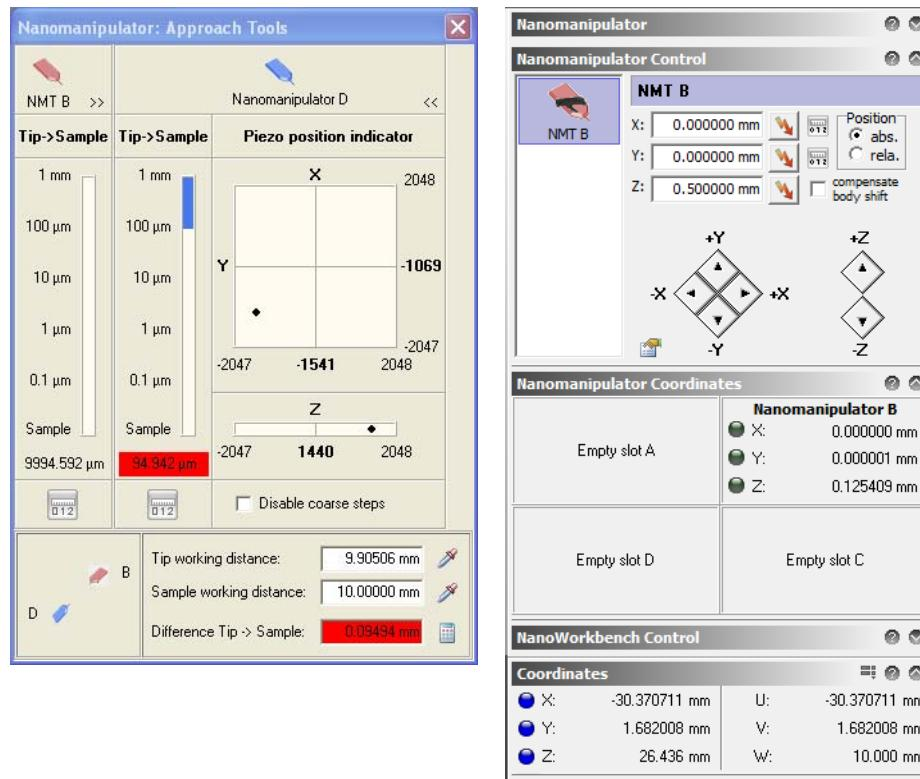
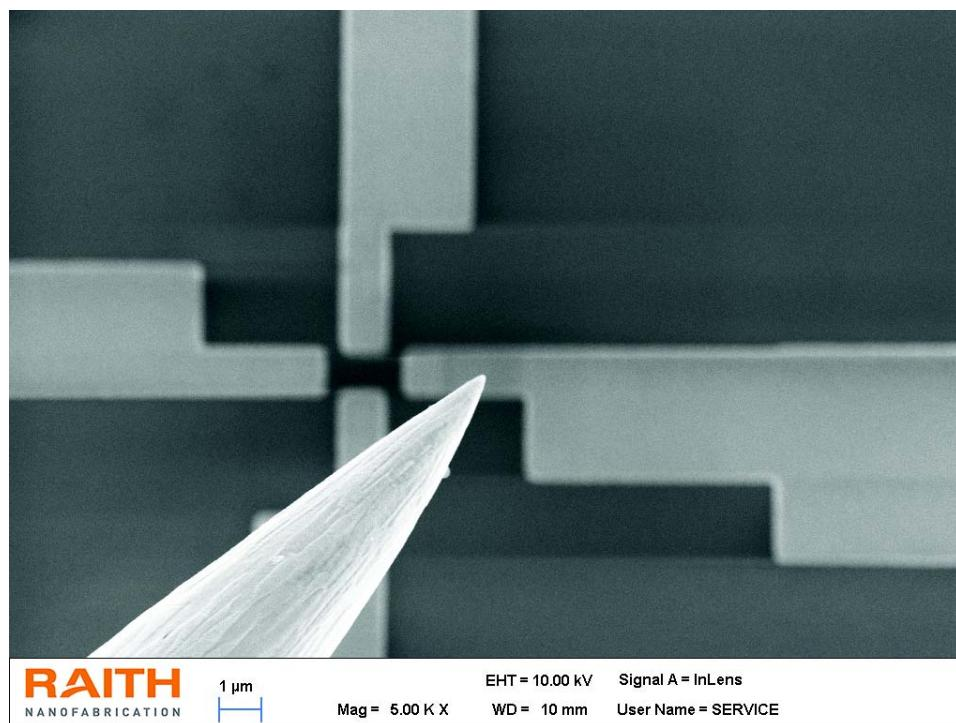

Figure 22-5: Approach process STEP 2a: Software values of the 1st approach. WD to sample: 10 mm. Real distance tip-sample: 125.500 µm. X, Y values: 0
Figure 22-7: Approach process STEP 2c: Image of 1st approach. Focus on tip, WD at 9.90506 mm (Magn. 5 000x). Real distance sample - tip = 125.500 μm
The nanomanipulator will be moved correspondingly and the Z value will be displayed in the **Nanomanipulator Coordinates** dialog (⇒ Figure 22-5 on page 22-10).
- ▶ Take over the focus value by clicking on  next to the **Sample working distance** input field (⇒ Figure 22-5 on page 22-10).
- ▶ Set the focus on the tip (⇒ Figure 22-7 on page 22-11).
(⇒ Figure 22-5 on page 22-10) to (⇒ Figure 22-7 on page 22-11) show the values of the first approach in the NANOSUITE software and the corresponding images: